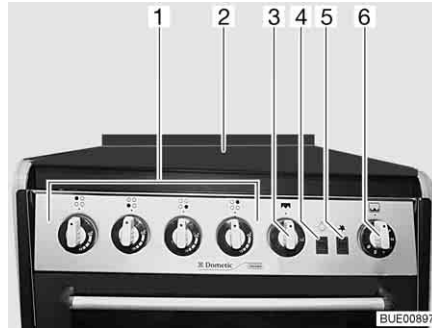

Fig. 181 Gas cooker with oven and grill
- Open the gas cooker lid (Fig. 181,2).
- Turn the control knob (Fig. 181,1) on the burner you wish to use to the ignition position (large flame).
- Press the lighting knob (Fig. 181,5) until there is a flame.
- ▷ The switch (Fig. 181,4) is used to turn the oven light on and off.
- Lightly press the control knob (Fig. 181,3) and turn to lighting position (large flame).
- Press the control knob (Fig. 181,6) slightly and turn it to an ignition position between 1 and 6.